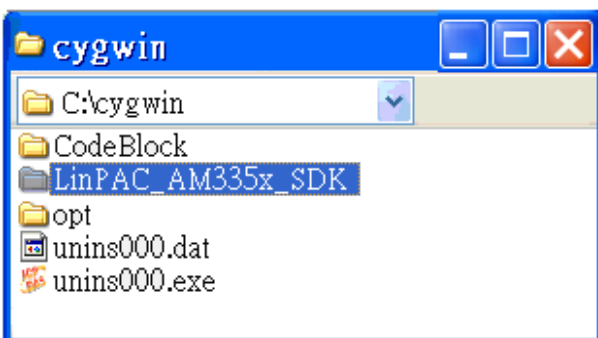
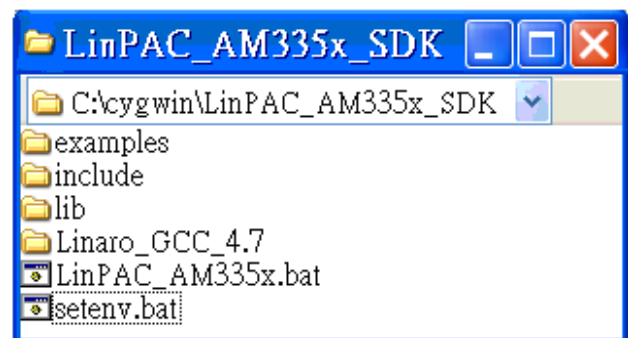

Fig. 3-13
Fig. 3-14
7. Open the LinPAC AM335x SDK installation directory, the default data directory location is “C:\cygwin\”, user can see the contents of folder. Refer to Fig 3-13 and Fig 3-14.